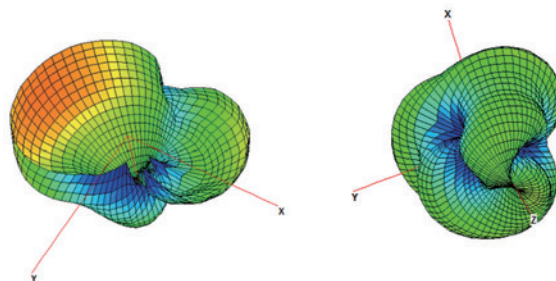

Figure 5 TIS/TRP plots (Source: <https://www.tele.soumu.go.jp/resource/j/equ/mra/pdf/24/e-18.pdf>)
- ◇ TRP (Total Radiated Power) to measure the total radiated power and TIS (Total Isotropic Sensitivity) to measure the total isotropic sensitivity (Figure 5).